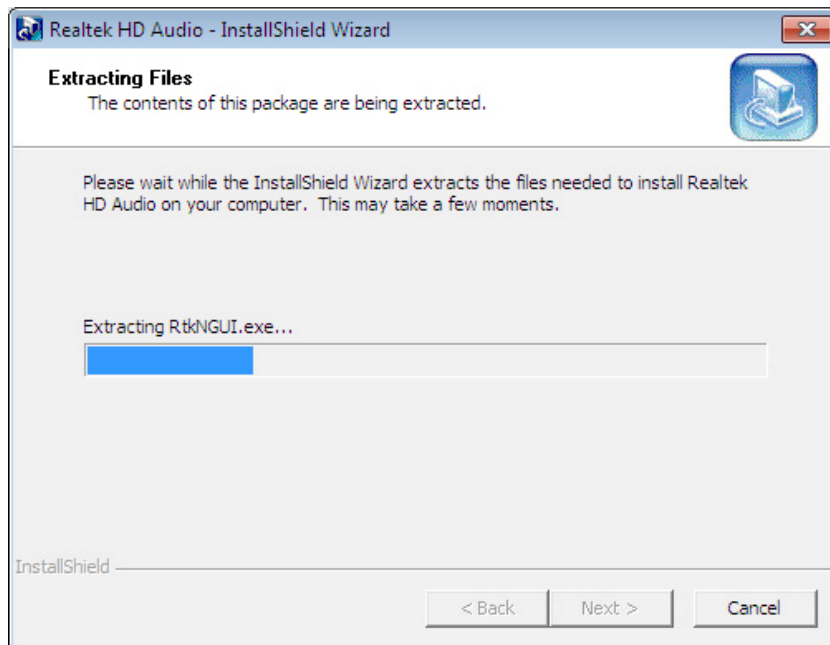

Figure 6-19: Audio Driver – Extracting Files
Step 4: The InstallShield Wizard starts to extract files (**Figure 6-19**).